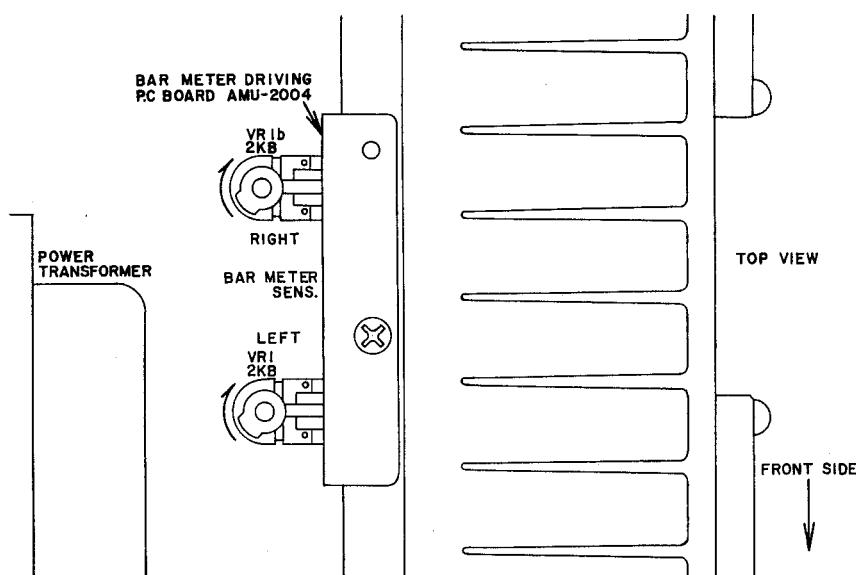

Fig. 7 Bar Meter Sens.
2. BAR METER SENSITIVITY ADJUSTMENT (Refer to Figs. 7, 8)